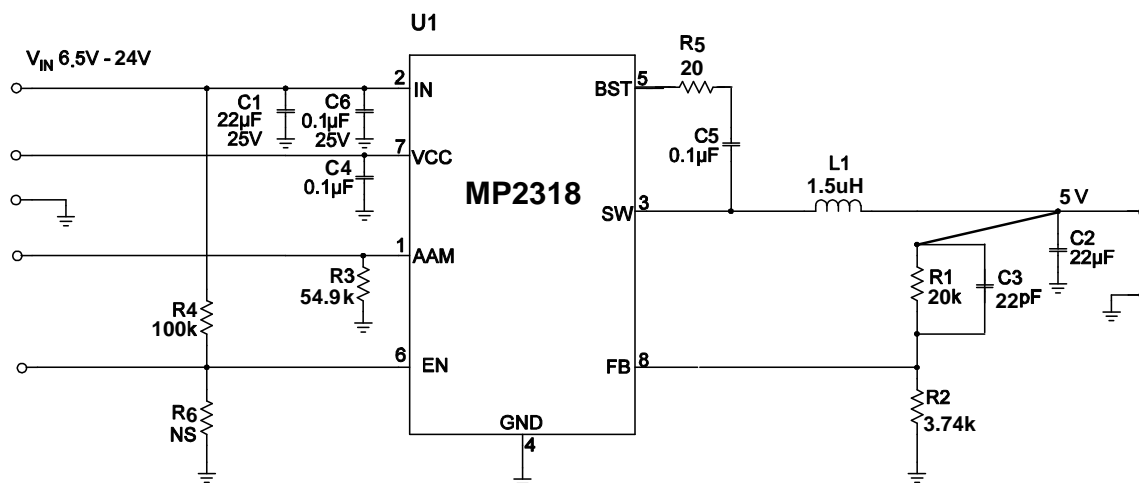

Figure 10: $V_{in}=19V$, $V_o=5V$, $I_o=2A$
- 6) The recommended layout is based on the Figure 10 Typical Application circuit on the page 16.
The detailed application schematics are shown in Figures 10 through 15. The typical performance and circuit waveforms have been shown in the Typical Performance Characteristics section. For more device applications, please refer to the related Evaluation Board Datasheets.